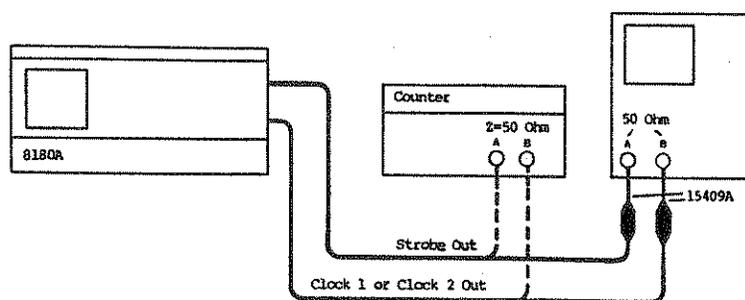

Figure 4-3 Clock Delay Test Setup
8. Connect equipment as shown in figure 4-3 press RUN and trigger the oscilloscope to channel A (strobe clock).
11. Connect Strobe and Clock to the counter as shown in figure 4-3.